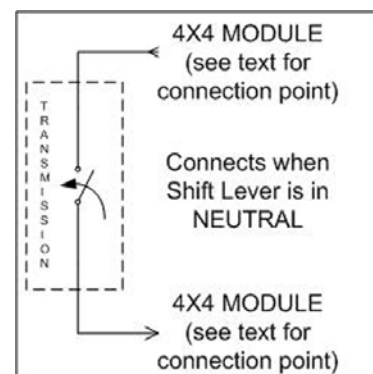

Figure 10
**4x4 MODULE** - If you are not using the factory Ford 4x4 Module skip this section. These wires are connected to a switch inside the transmission that connects 4x4 Module In and 4x4 Module Out when the transmission is in the Neutral Position. This is a safety feature that ensures the transfer case can only be switched when the transmission is in Neutral. (See Figure 10) One of the **4x4 MODULE** wires should be connected to the Transmission Neutral Position input on the Ford Electronic Shift Control Module. The second **4x4 MODULE** wire needs to be grounded.